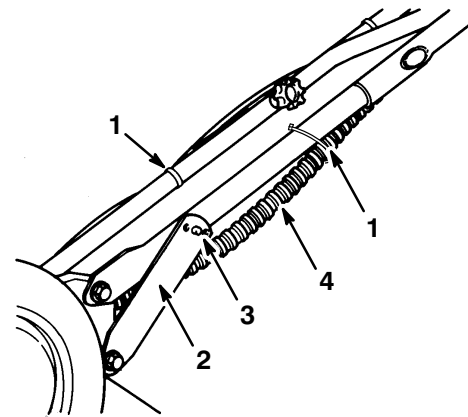

Figure 3
3. Install the knob and bolt on inside of the handle (Fig. 3).
5. Move the handle latches slightly outward so they will not be in the way when pivoting the handle into the operating position (Fig. 3).
7. Move the handle latches inward so that the handle stud in the center hole of handle latch (Fig. 3).
10. Ensure that the control cables are to the rear and inside of handles. Secure cables to handle with cable ties (Fig. 3).